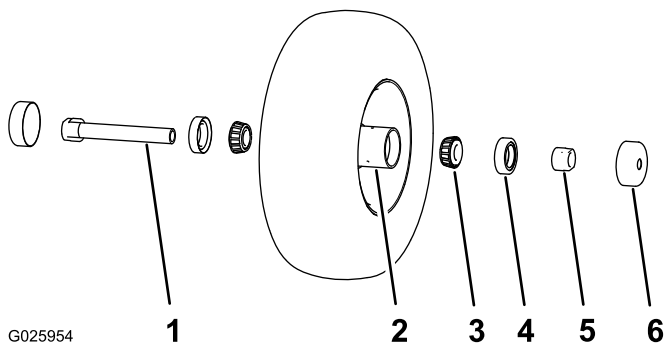

Figure 33
1. Remove the 2 seal guards from the wheel hub (Figure 33).
2. Remove 1 of the spacer nuts from the axle assembly in the caster wheel (Figure 33).
Note: Note that thread-locking adhesive has been applied to lock the spacer nuts to the axle (Figure 33).
3. Remove the axle (with the other spacer nut still assembled to it) from the caster-wheel assembly (Figure 33).
4. Pry out both of the bearing seals (Figure 33).
5. Remove both of the bearings and inspect each of them for wear or damage (Figure 33).
1. Install 1 bearing into the hub of the wheel (Figure 33).
2. Install the bearing seal into the hub at the bearing (Figure 33).
- C. Thread the axle nut, with the wrench flats facing outward, onto the end of the axle that is prepared with thread-locking compound (Figure 33).
4. Insert the assembled nut and axle into the wheel at the side of the wheel with the new seal and bearing (Figure 33).
6. Install the other bearing and new seal into the wheel (Figure 33).
9. Install the seal guards over the wheel hub (Figure 33).